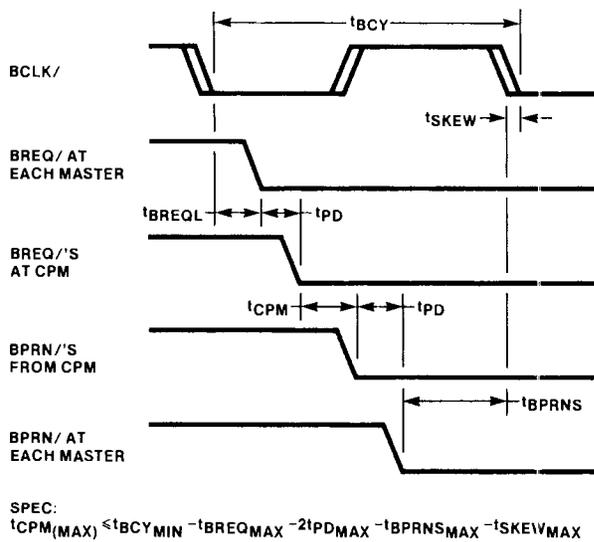

Figure 3-10. Parallel Priority AC Timing
**3.2.5.2 PARALLEL PRIORITY.** For a system that uses a parallel priority scheme (i.e., a central priority resolver, see Section 2.4) the system and CPM (central priority module) timing specifications shown in figure 3-10 apply.